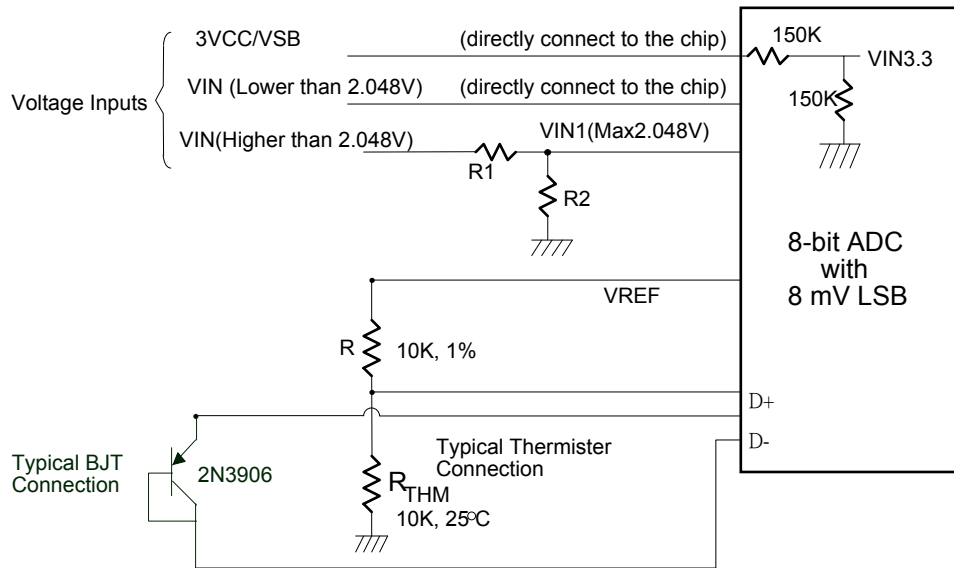

Figure 2. Hardware monitor configuration
The F71869E can connect three thermistors to measure environment temperature or remote temperature. The specification of thermistor should be considered to (1) β value is 3435K (2) resistor value is 10K ohm at 25°C. In the Figure 2, the thermistor is connected by a serial resistor with 10K ohm, then being connected to VREF.
Also, if the CPU, GPU or external circuits provide thermal diode for temperature measurement, the F71869E is capable to these situations. The build-in reference table is for PNP 2N3906 transistor. In the Figure 2, the transistor is directly connected into temperature pins.